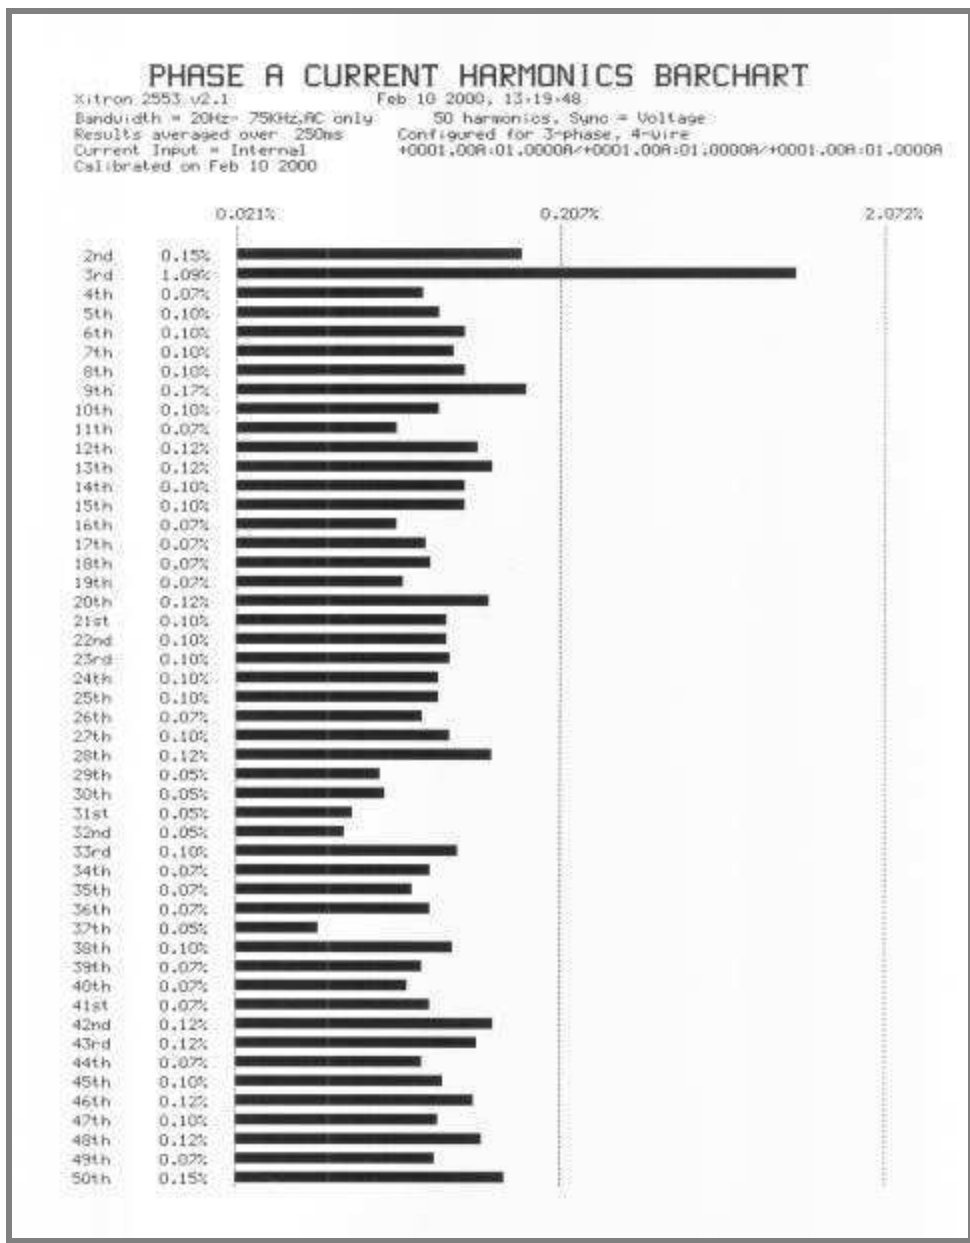
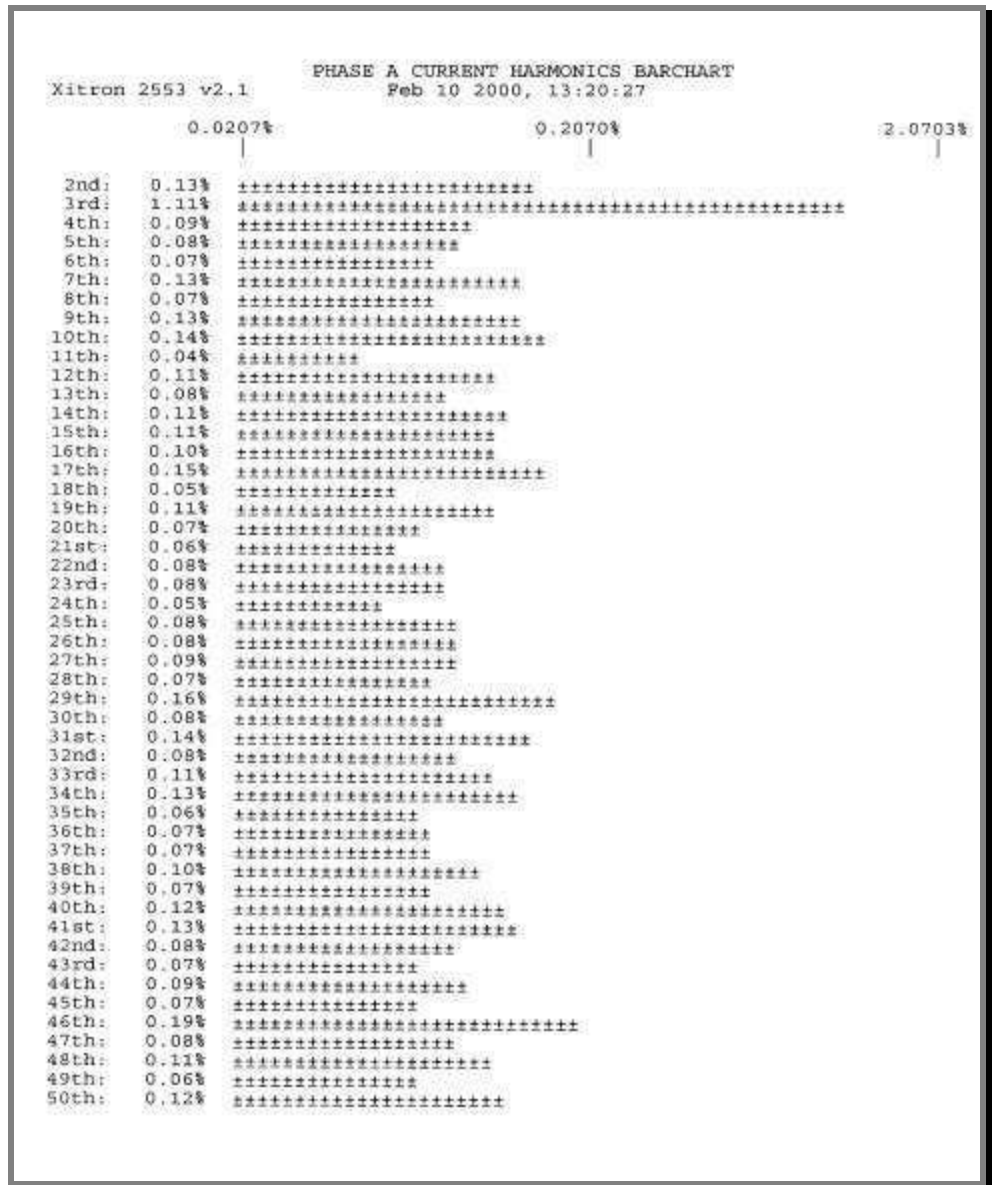

Figure 80. Phase A Current Harmonics Barchart graphic printout
Figure 81. Phase A Current Harmonics Barchart nongraphic printout
- From the **Harmonics** Bargraph group you can print separate bargraphs for absolute or percent, linear or logarithmically, and current or voltage. See *Figure 80* and *Figure 81*.